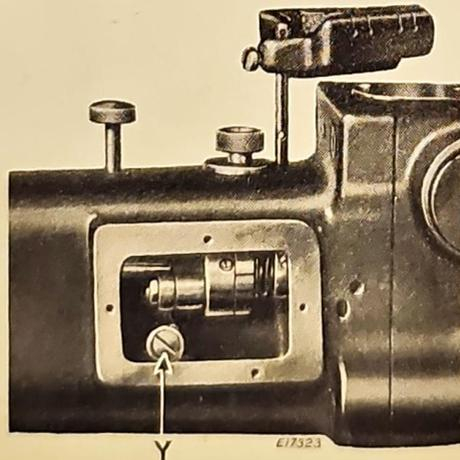

Fig. 19
If the distance between the vibrating presser bar and the lifting presser bar is more or less than $\frac{5}{8}$ inch, see that the feeding mechanism is set so that there is no feeding movement of the needle bar, then remove the cover at the front of the machine, loosen the clamp screw (Y, Fig. 19) which holds the needle bar rock frame rock shaft and move the needle bar frame forward or backward to the required distance. A piece of metal of the correct width may be used to determine the correct distance. When the adjustment has been made, securely tighten the clamp screw (Y), replace the cover plate and restore the feeding mechanism to its original position.
Remove the face plate and needle bar rock frame, then loosen the clamp screw at (Y, Fig. 19) and draw out the rock shaft and remove the sleeve.